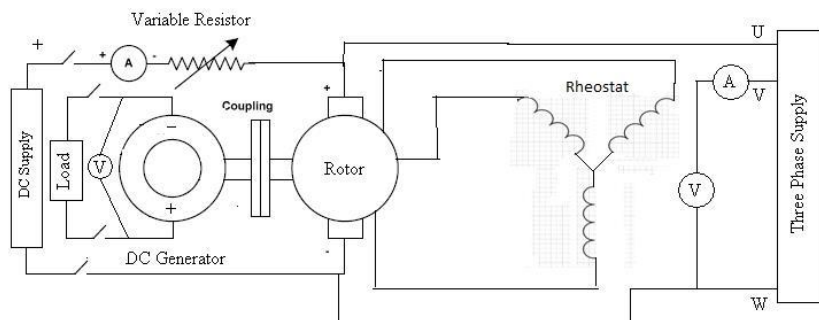

Figure 14.1: Torque speed curve of Induction motor
1. According to the given diagram shown in Figure 14.1 connect the different electrical wires.